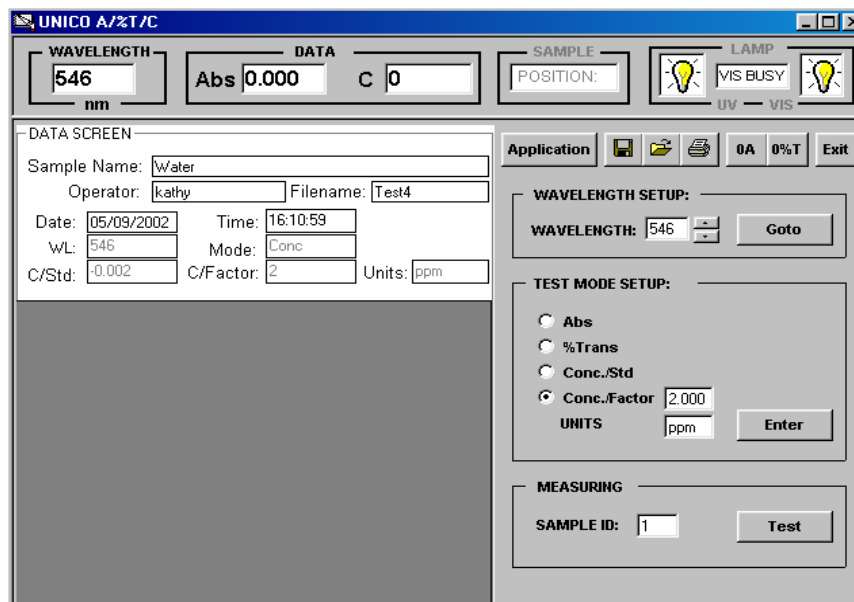

Figure-24 Factor Setting
- Step 4B: Select the Test Mode: **Conc./Factor**, type in the desired **Factor** in the Text Field at the right of **Conc./Factor** label, type in the unit in the Text Field at the right of the **UNIT** label (Figure-24 Factor Setting).